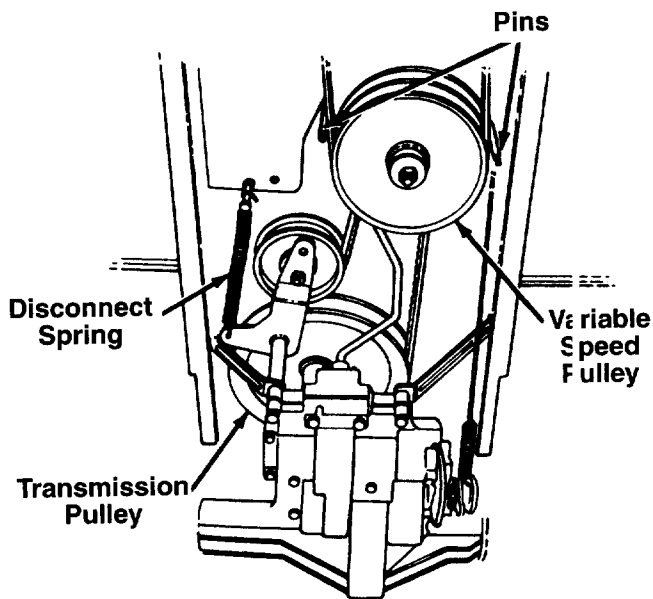

FIGURE 27.
5. Remove the two pins which act as belt keepers by the variable speed pulley. See figure 27.